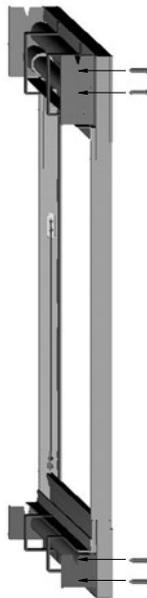

FIGURE 2
3. Mark the position of the bracket holes on the wall. See Figure 2.